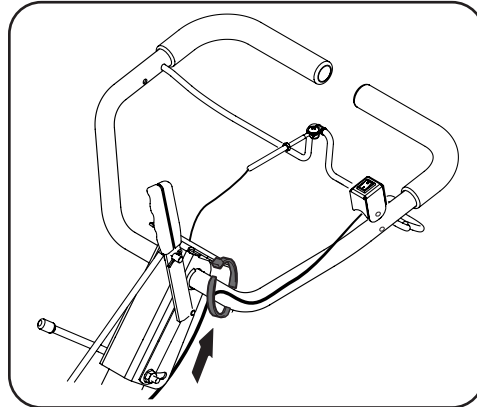

Figure 2-5
- Route the wire over to the left side of the handle and secure with a cable tie on the lower part of the handle. See Figure 2-5.